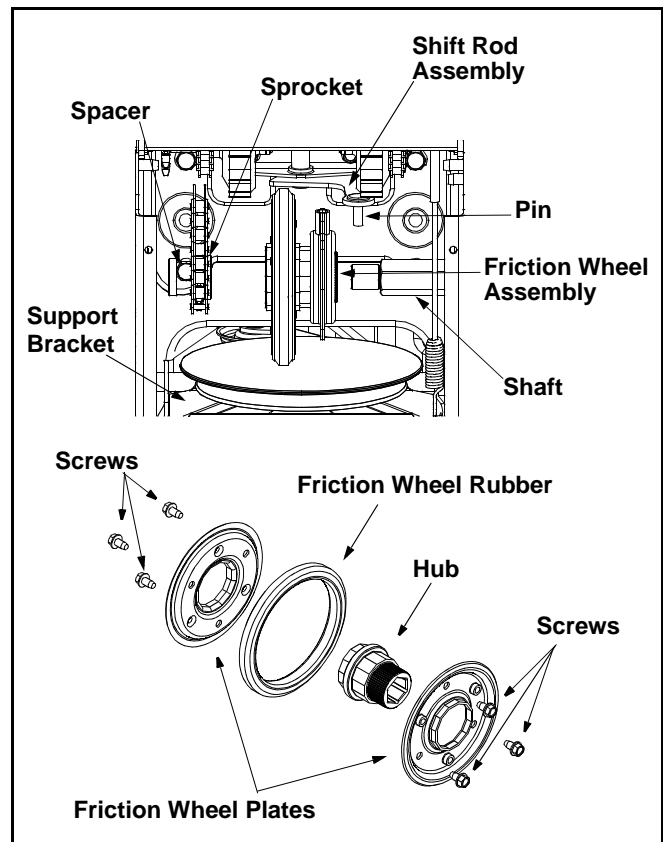

Figure 18
- Move the gear shaft to the right and slide the friction wheel assembly from the shaft. See Figure 18.
- Remove the six screws from the friction wheel assembly (three from each side). Remove the friction wheel rubber from between the friction wheel plates. See Figure 18.